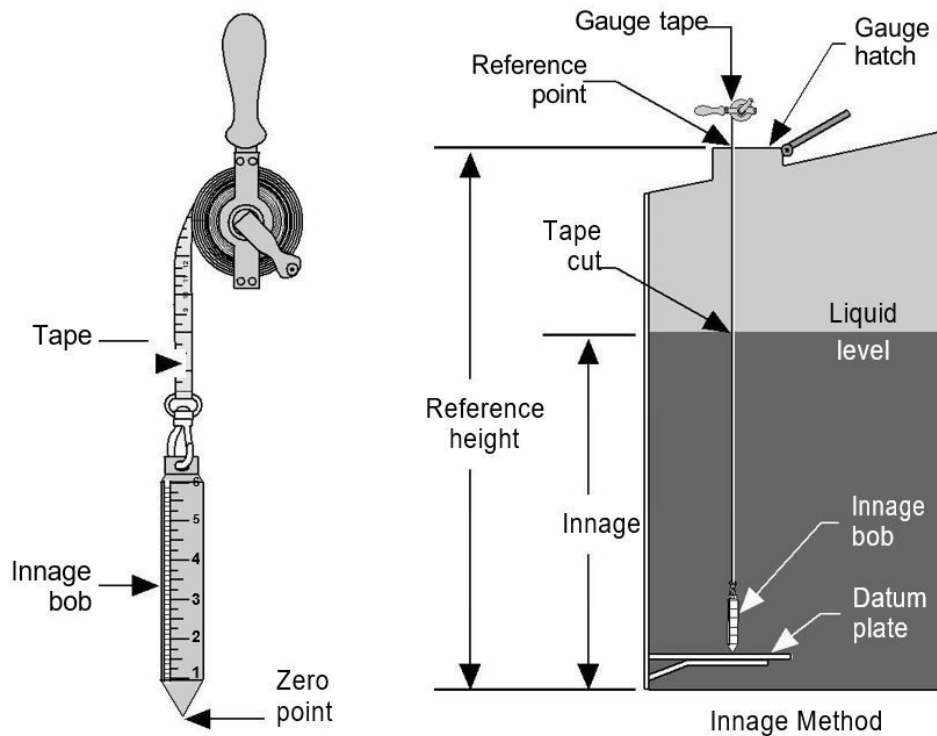

Figure 3.3. Innage method of gauging |
7. Take the opening gauge to the nearest 1/4 inch. Two consecutive readings must be the same before recording the opening gauge on the measurement ticket (see Figure 3.3).